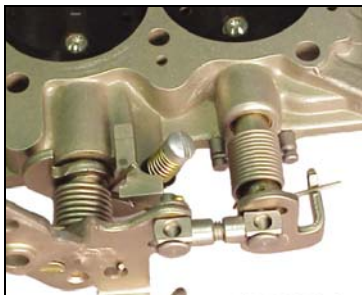

Figure 3 (Progressive)
1. Install the Clevis pins from the outside of the secondary link through the throttle arms (see Figure 3).